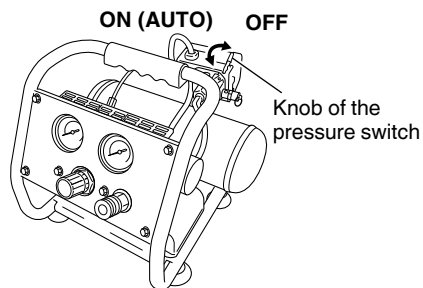
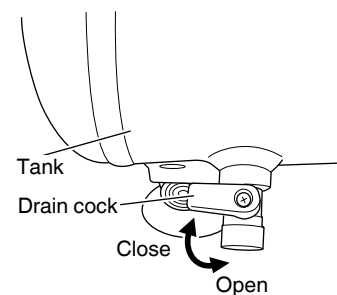

Fig. 2
Fig. 5
Ensure that the knob of the pressure switch is in the "OFF" position (Fig. 2). If the plug is connected to a receptacle while the knob is in the "ON (AUTO)" position, the compressor will start operating immediately and can cause serious injury.
Insert the plug into the receptacle and start the compressor using the knob of the pressure switch. (Refer to Fig. 2).
- (1) Place the knob of the pressure switch in the "OFF" position. (Refer to Fig. 2).
- (2) Unplug the plug from power source.
- (3) Open the drain cock located at the lower part of the tank (Fig. 5). Tank pressure should be below 10 psi when draining the tank.
- (1) Place the knob of the pressure switch in the "OFF" position and disconnect the plug from the receptacle (Fig. 2).
- (2) Check for the following possible causes first: lack of proper ventilation, or an outside-air or room temperature that is too high.
- (3) If the extension cord does not conform to the specifications given on page 7 replace with an extension cord such as that shown on page 7. If the capacity of the power supply is insufficient, increase the power supply capacity to remove the cause of a flow of excessive current (over-current).
- (4) Wait approximately 20 minutes.
- (5) Start up. If the motor still stops during operation, please contact the service center.
Drain tank daily or after 4 hours of use. Open drain cock and tilt compressor to empty accumulated water (Refer to Fig. 5). Tank pressure should be below 10 psi when draining the tank.